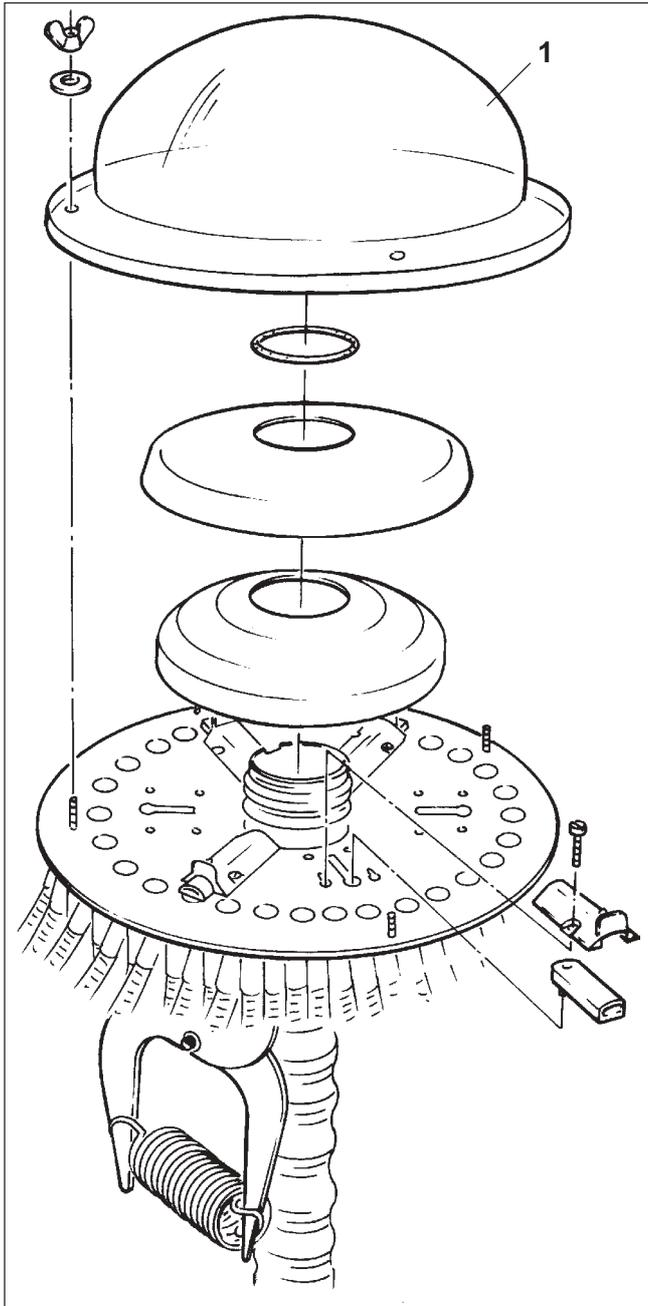

Fig. 50.5
- Remove outer hood (Fig. 50.5/1 of distributor head for cleaning.